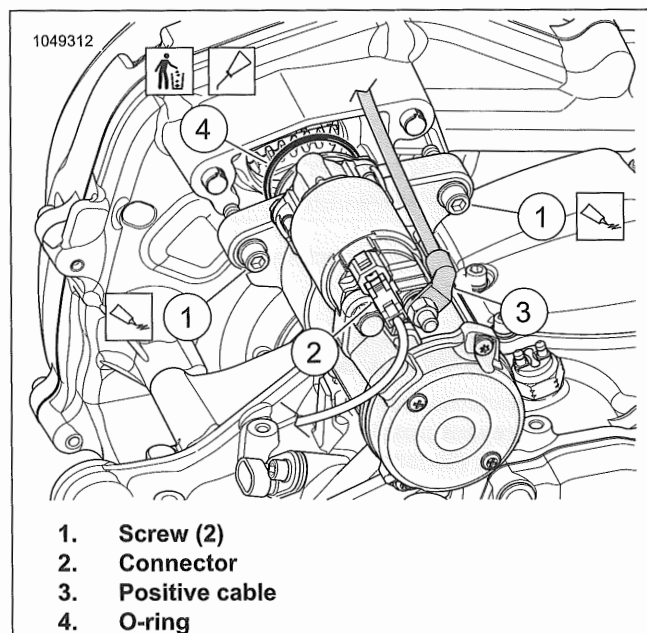

Figure 7-5. Starter
1. See Figure 7-5. Install new O-ring (4).
- b. Install **new** O-ring (4).
- a. Apply thread-locker to screws (1).